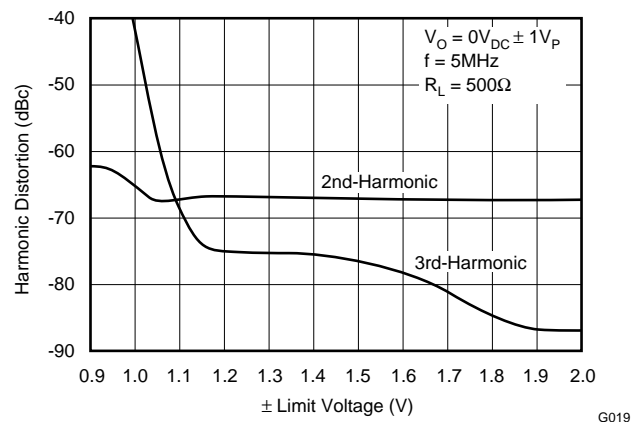

Figure 59. Harmonic Distortion Near Limit Voltages
- The limiter offset voltage only slightly degrades limiter accuracy. Figure 59 shows how the limiters affect distortion performance. Virtually no degradation in linearity is observed for output voltage swinging right up to the limiter voltages. In this plot a fixed ± 1 -V output swing is driven while the limiter voltages are reduced symmetrically. Until the limiters are reduced to ± 1.1 V, little distortion degradation is observed.